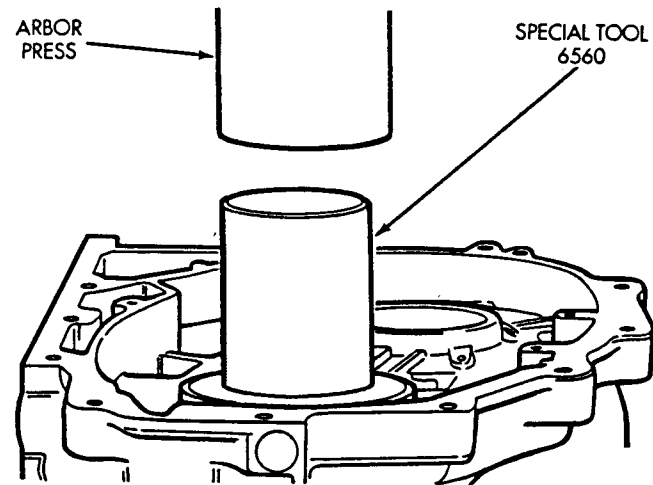

Fig. 31 Rear Transfer Shaft Cup Installation
(35) Use special tool 6560 to press cup into case (Fig. 31).